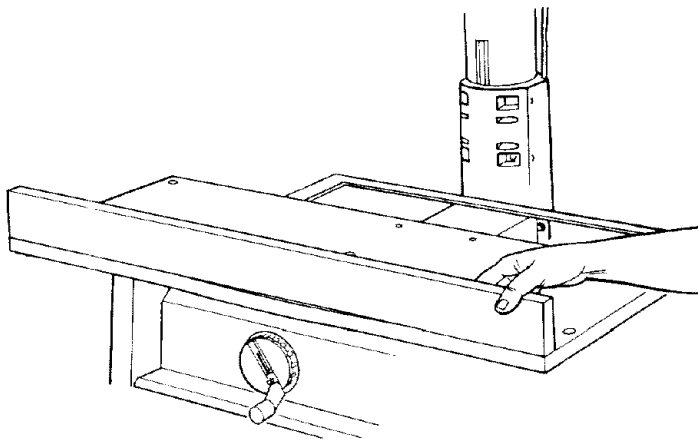

Fig. 50
9. Lay the edge of the *rear table* across the center of the *front table*, and check to see if there is a gap between the two. (Figure 50)